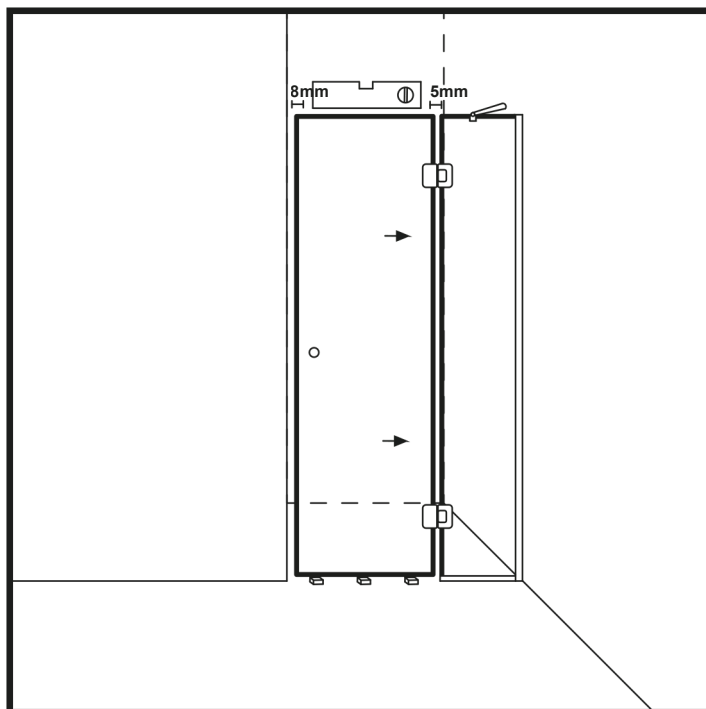

Figure 12
28. Place wooden blocks (max. thickness 10 mm) on the floor where you can support the door glass in the package. (Figure 12)